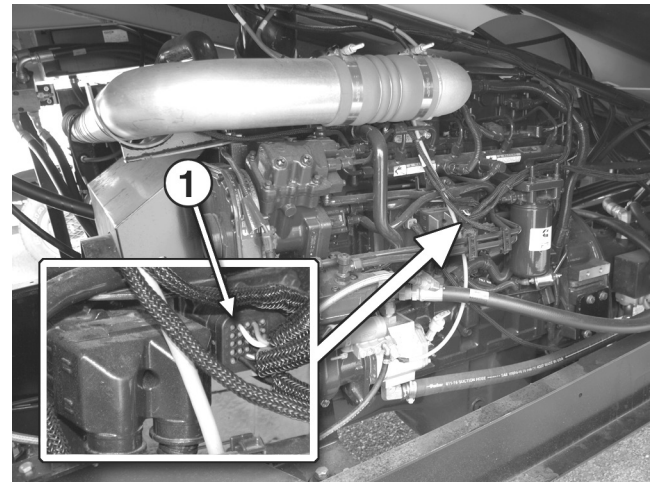

Figure 12. Engine Left Side
2. Disconnect the 50 pin connector at the engine, so that the engine can only be cranked and cannot be started. **(Figure 12)**